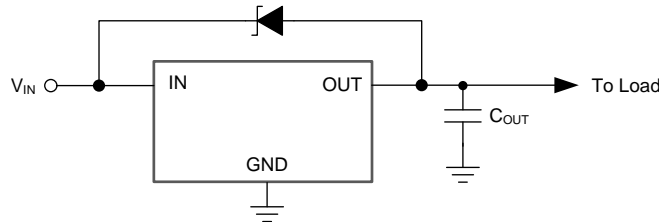

Figure 49. Zener Diode Placed from IN to OUT
- Place a zener diode from IN to OUT to provide a small positive dc bias on the output when the input is supplied to the device, as shown in Figure 49.